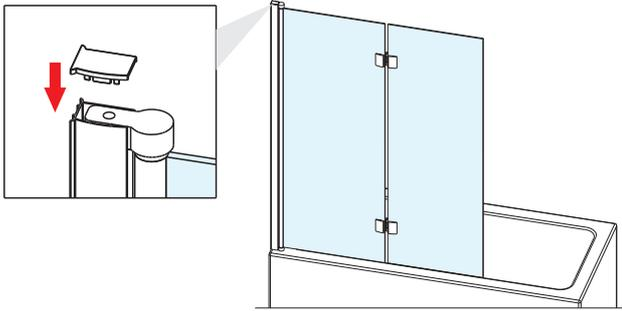

FIG 7
7. Fix top cover cap(M7017) to wall profile (MOBY002L/R). **Fig 7.**